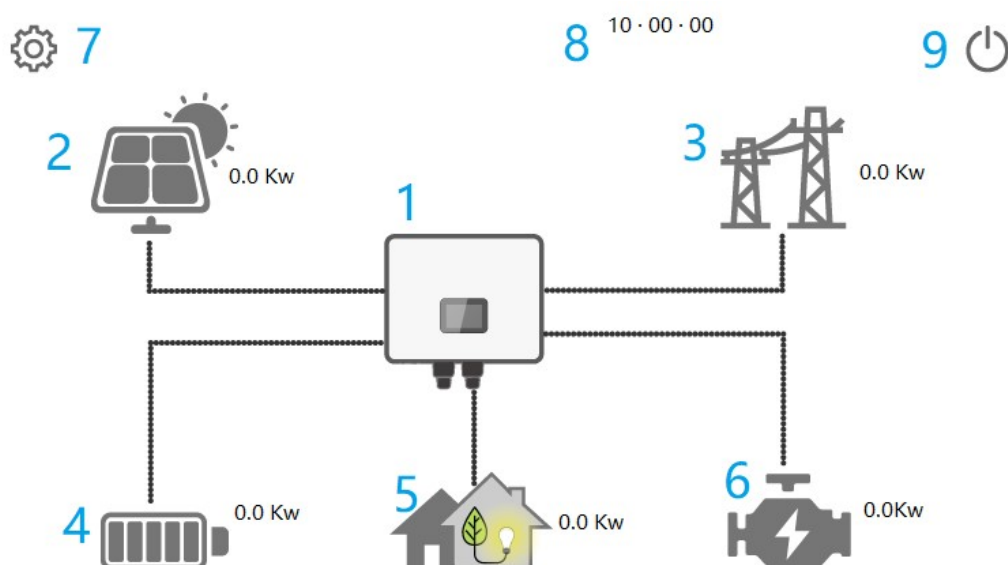

Figure 6-3
- Ensure that the DC cable is current-free via a current clamp (Figure 6-3).